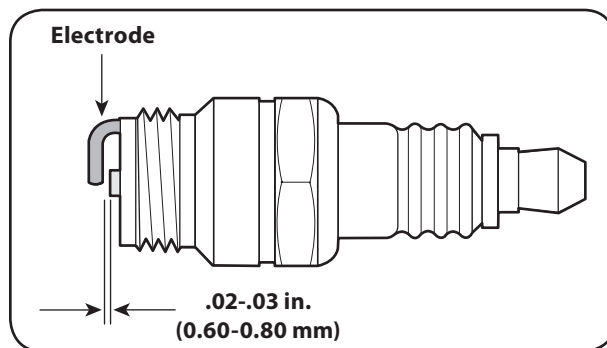

Figure 7-3
2. Remove the frame cover from the underside of the snow thrower by removing four self-tapping screws which secure it. Refer to Fig 7-3.
3. Measure the plug gap with a feeler gauge. Correct as necessary by bending side electrode, Figure 7-3. The gap should be set to .02-.03 inches (0.60-0.80 mm).